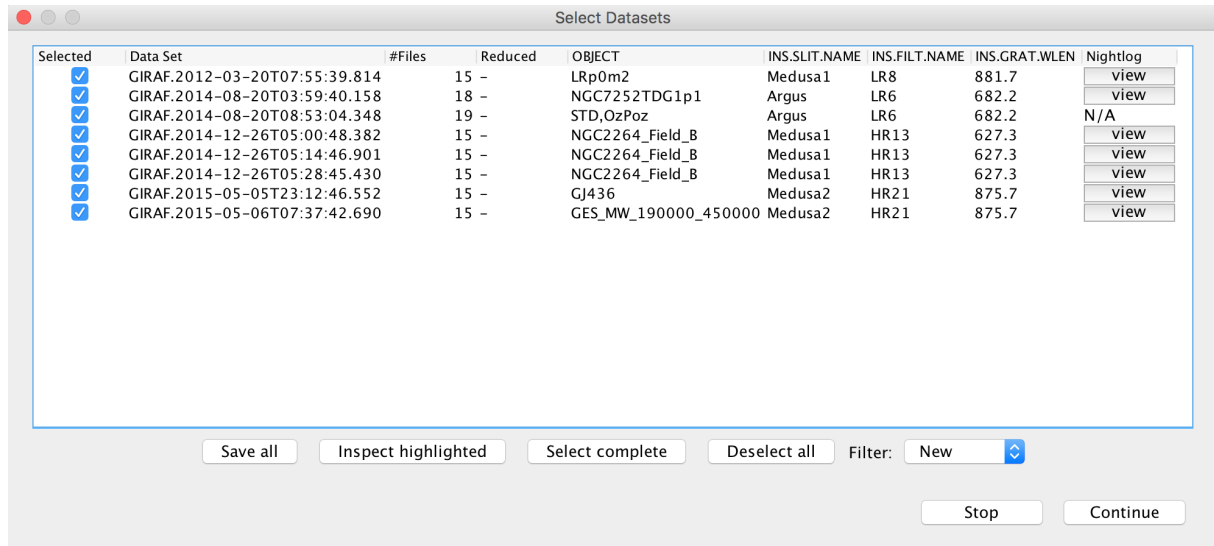

Figure 3.2: The ‘Select Datasets’ pop-up window. Note it may be necessary to increase the width of the window in order to see all the information.
7. The `Data Set Chooser` actor will be highlighted next and will display a “Select Datasets” window (see Figure 3.2) that lists the datasets along with the values of a selection of useful header keywords⁵. The first column consists of a set of tick boxes which allow the user to select the datasets to be processed. By default all complete datasets which have not yet been reduced will be selected. A full description of the options offered by the `Data Set Chooser` will be presented in Section 6.3.2.